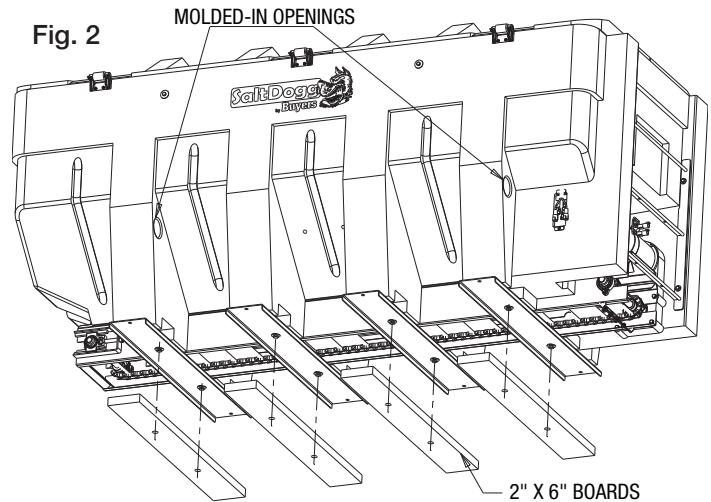
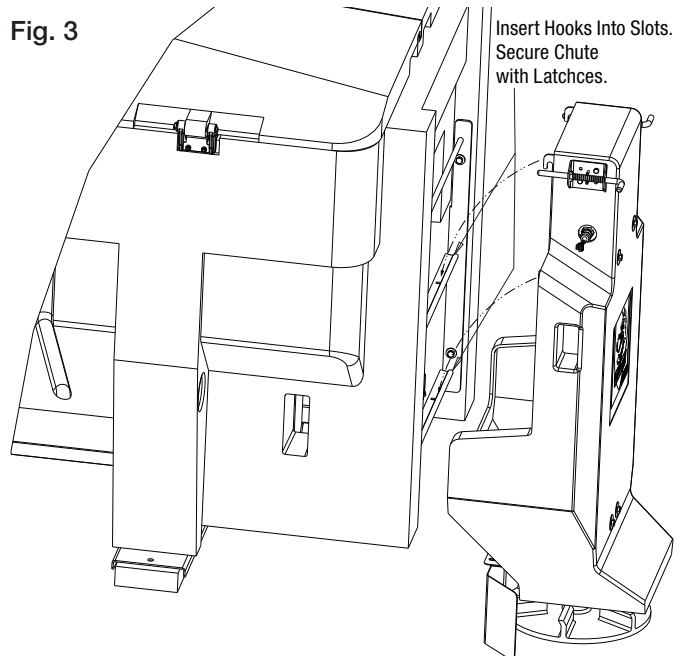

Fig. 2
Fig. 3
E. Next, set the spreader in the truck body. Use four tie-downs to lift the spreader (Fig.2). Rectangular openings on the bottom of support legs can also be used to lift spreader using fork lift.
F. Lower spreader onto 2" x 6" boards positioned in truck bed. Make sure that bolt heads in stainless steel cross members would go into boards openings (Fig. 2). Attach chute to the spreader. If necessary, slide spreader rearward to have at least 2" clearance between chute and rear most vertical obstruction. (Fig. 3)